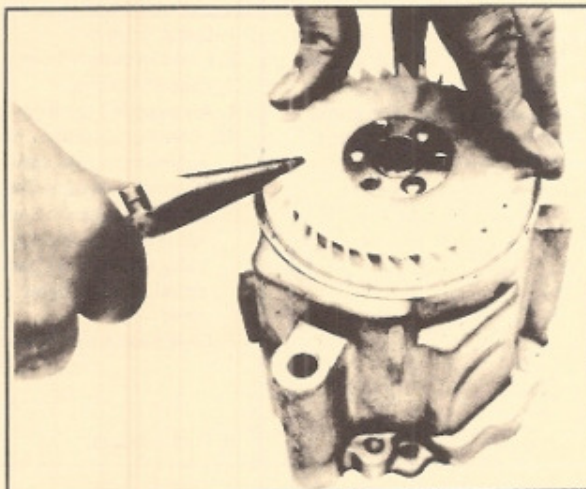

Figure 60 — Filter Fan Removal
2. Insert needle nose pliers and pull fan from hub (see figure 60).